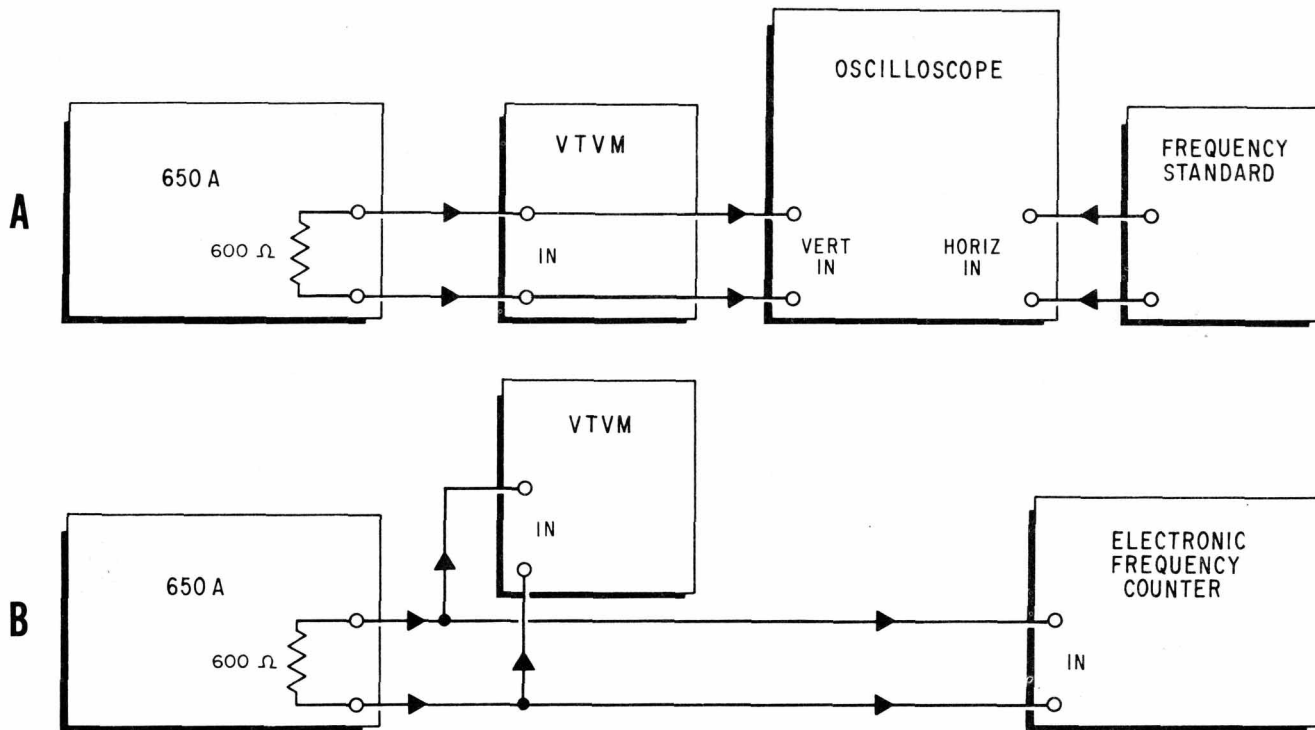

Figure 4-3. Calibration and Response Check for Low Frequency Oscillator
Suggested setups for low frequency oscillator calibration and response checks are given in Figure 4-3.
a. Connect a 600 ohm resistive load and frequency measuring equipment to 650A output terminals. See Figure 4-3.
- a. Connect voltmeter and frequency measuring equipment as shown in Figure 4-3.